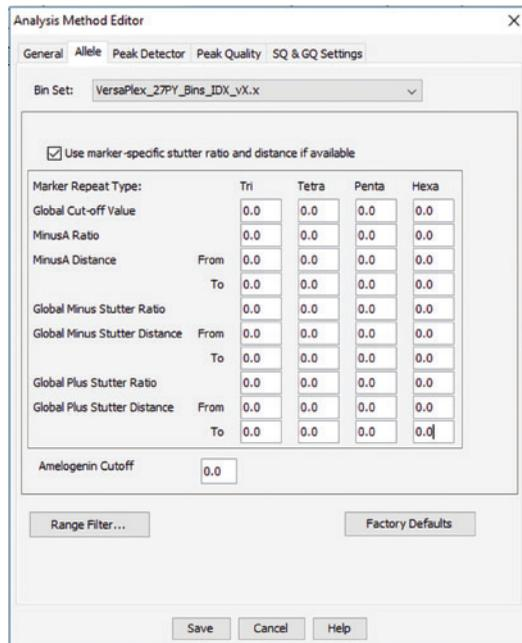

Figure 14. The GeneMapper® ID-X Software, Version 1.4, Allele tab.
6. Select the Allele tab (Figure 14).
8. If you do not check the “Use marker-specific stutter ratio and distance if available” box, you will need to optimize these settings. In-house validation should be performed. If in-house validation is not performed, ensure that the “Use marker-specific stutter ratio and distance if available” box is checked. Doing this will assign locus-specific stutter filters and distances from the imported stutter file. We recommend the settings shown in Figure 14 for proper filtering of stutter peaks when using the VersaPlex™ 27PY System.